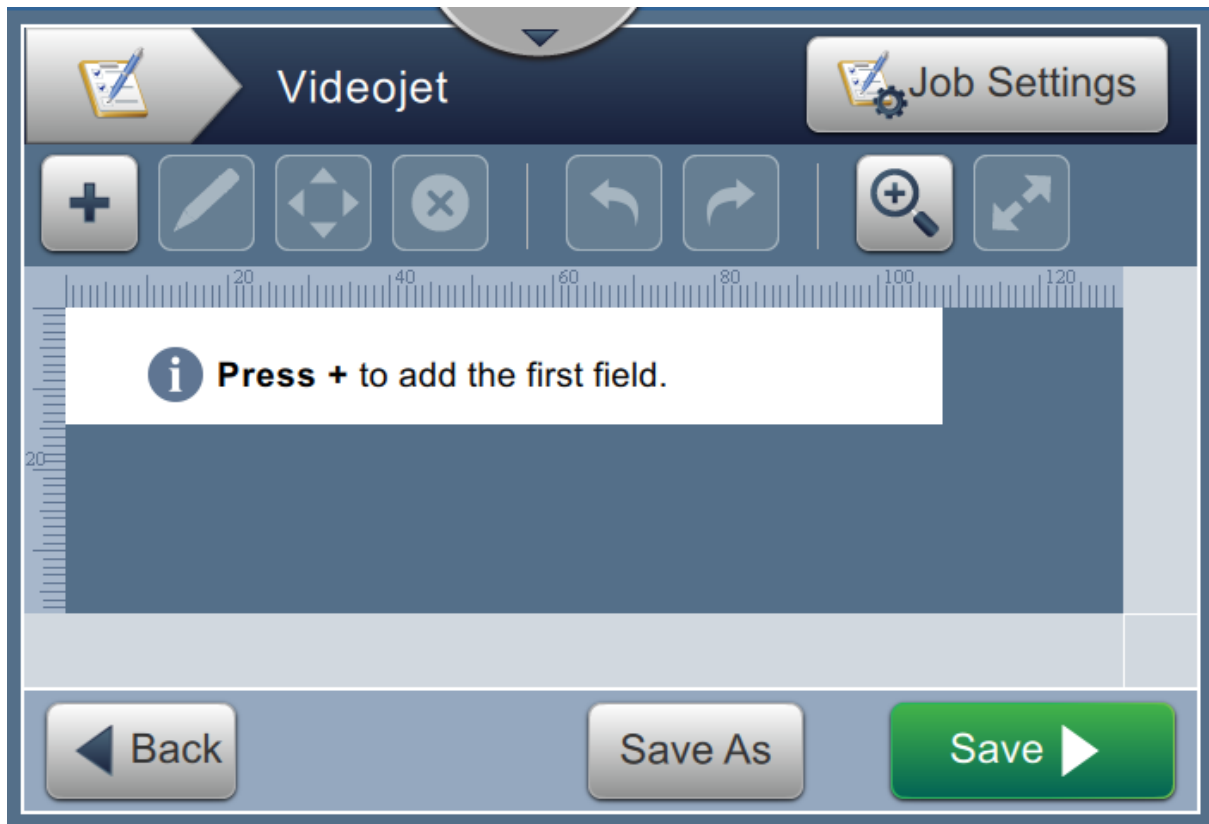

Figure 5-3: Job Editor Screen
6. Job Editor screen opens as shown in Figure 5-3.